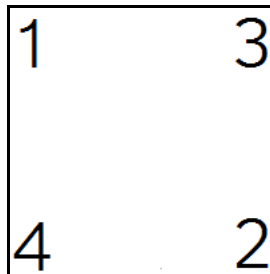

FIGURE 3-7 TIGHTEN SCREWS IN THE FOLLOWING ORDER AND PATTERN
- 10 Replace the cover. Loosely tighten each screw in the X pattern as shown in Figure 3-7. Then securely tighten each screw in the X pattern.